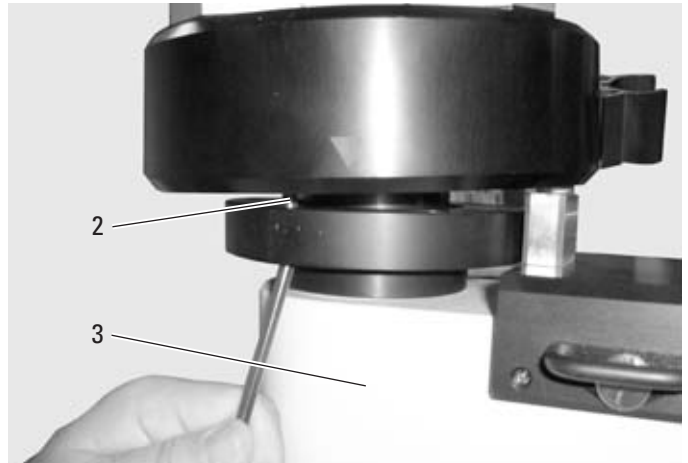

Fig. 3
⇒ Screw the horizontal arm (3) using 6 screws M6 (2) to the Telescope Mount with 10 Nm torque (Fig. 3).